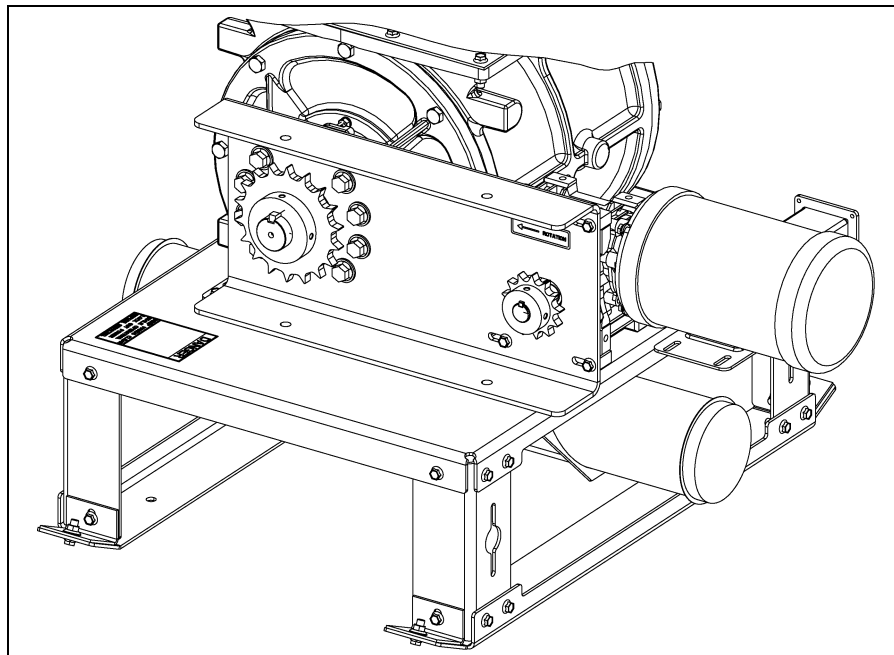

Figure 7J
8. Using four (4) 5/16" x 3/4" flange head bolts, mount the motor to the airlock gearbox. Place the specified sprocket on to the airlock shaft and align to sprocket on gearbox. (See Figure 7J.)